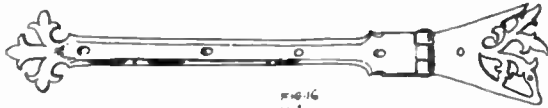

FIG. 16
**HINGE BANDS.**—To the small cupboard or cabinet door, a well designed hinge-band is a great ornament. Fig. 12 is an iron band, of which a pair ornament either of the two doors of a carved Gothic sideboard, German fifteenth century; Fig. 13, 14 and 15 are varieties of termination. Although Fig. 15 is of exceptionally heavy iron, a hinge band or angle plate moulded on these good and simple lines, together with a lock plate designed to match, ought to make a very presentable piece of work. A French hinge band, late fifteenth century, is shown in Fig. 16. The termination in the form of a fleur-de-lis, Figs. 17 and 18, forms part of the decoration from a German window shutter, about 1550, which in itself is an object lesson in beautiful fittings. Fig. 17 is a double hinge band to allow shutter to fold back, and Fig. 18 is a small angle plate. Fig. 19, together with the bolt plate, Fig. 29, appears upon some fine oak panelling from an old house near Exeter; while Fig. 20 is a hinge of tinned iron, German sixteenth century; and Fig. 21, English, formed part of the decoration on an old church door, the nail heads which secure either end being driven through the centre of the small volutes. Fig. 22-27 show handles and handle plates such as are required on small pieces of furniture in the home, Fig. 27 being a dainty "drop" used to pull out the drawers from an elaborate French oak cabinet, late sixteenth century.